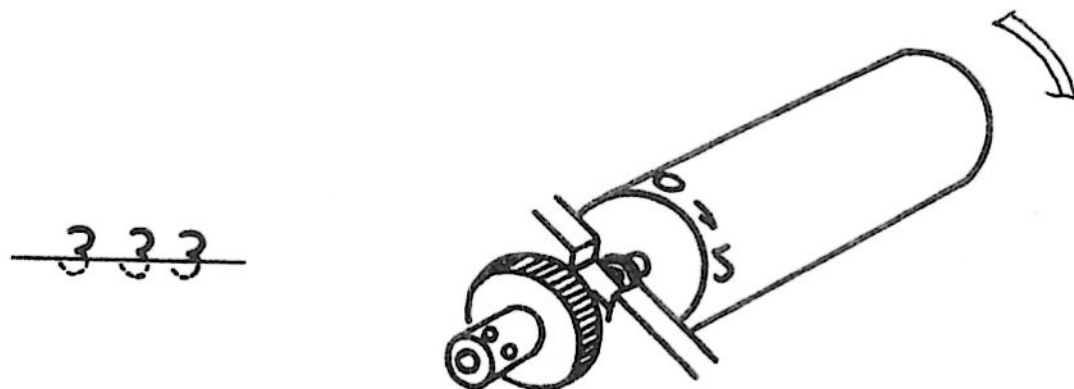

Fig. 11
(3) Temporarily tighten setscrews, then make a few prints.
(4) Print-out
- A) If lower part of characters is not printed, loosen setscrews and slightly turn print wheel in direction of arrow in Fig. 11